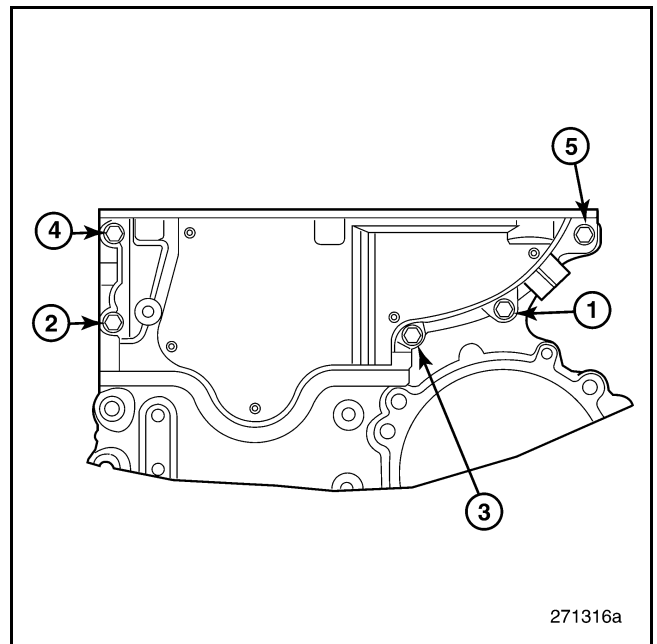

Figure 120 — Timing Gear Cover Fasteners Torque Sequence
5. Remove the screws attaching the timing gear cover to the timing gear plate and cylinder head (Figure 120).